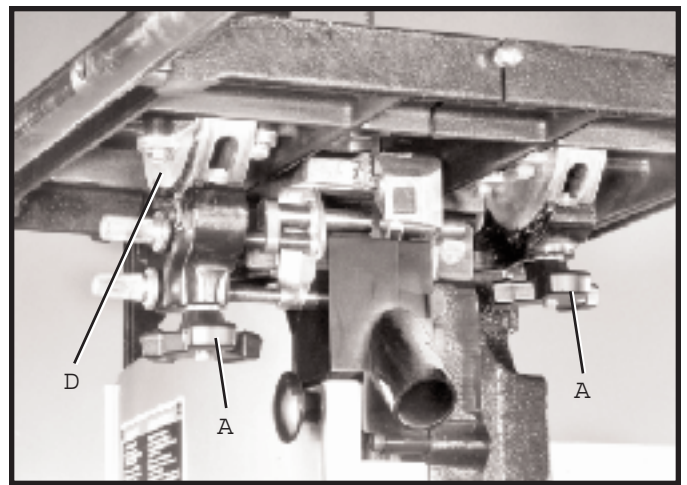
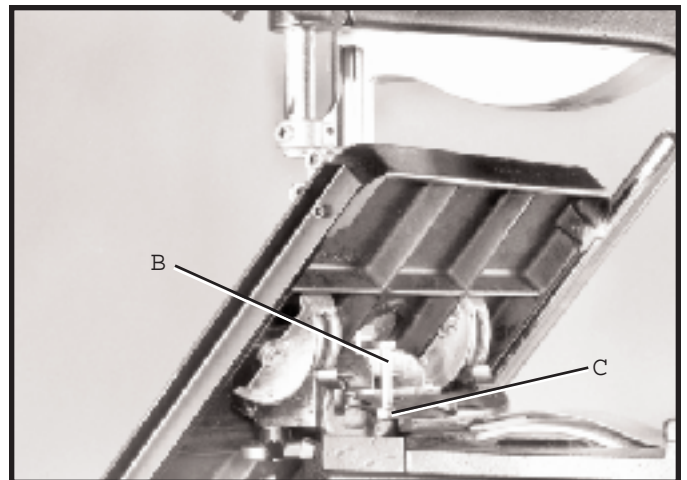
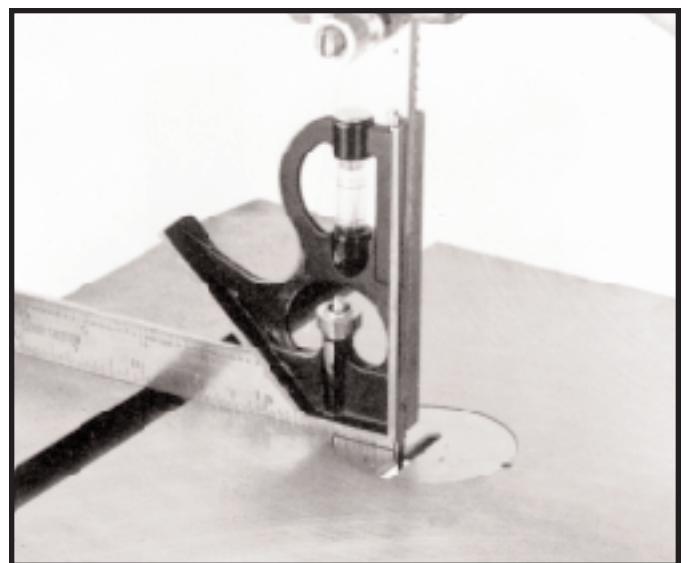

Fig. 37
Fig. 38
Fig. 39
1. The table on the band saw can be tilted 45 degrees to the right and 10 degrees to the left. To tilt the table to the right, loosen two locking knobs (A) Fig. 37, tilt the table to the desired angle as shown on scale (D), and tighten two locking knobs (A).
2. To tilt the table to the left, loosen two locking knobs (A) Fig. 37, and tilt the table slightly to the right until you can gain access to table stop (B) Fig. 38. Remove table stop (B) Fig. 38, and tilt the table to the left angle up to 10 degrees and tighten two locking knobs (A) Fig. 37.
The band saw is equipped with an adjustable table stop (B) Fig. 38, that allows the table to be set perfectly at 90 degrees with the blade.
Tilt the table to the left until the table stop (B) Fig. 38, contacts the bottom of the table. Place a square on the table and against the blade as shown in Fig. 39, and check to see if the blade is 90 degrees to the table surface. If an adjustment is necessary, proceed as follows:
2. Turn adjustment nut (C) Fig. 38, right or left as necessary to raise or lower table stop (B).
3. Lower the table and make certain the table is 90 degrees to the blade as shown in Fig. 39.
4. It is necessary to remove the adjustable table stop (B) Fig. 38, when tilting the table to the left.